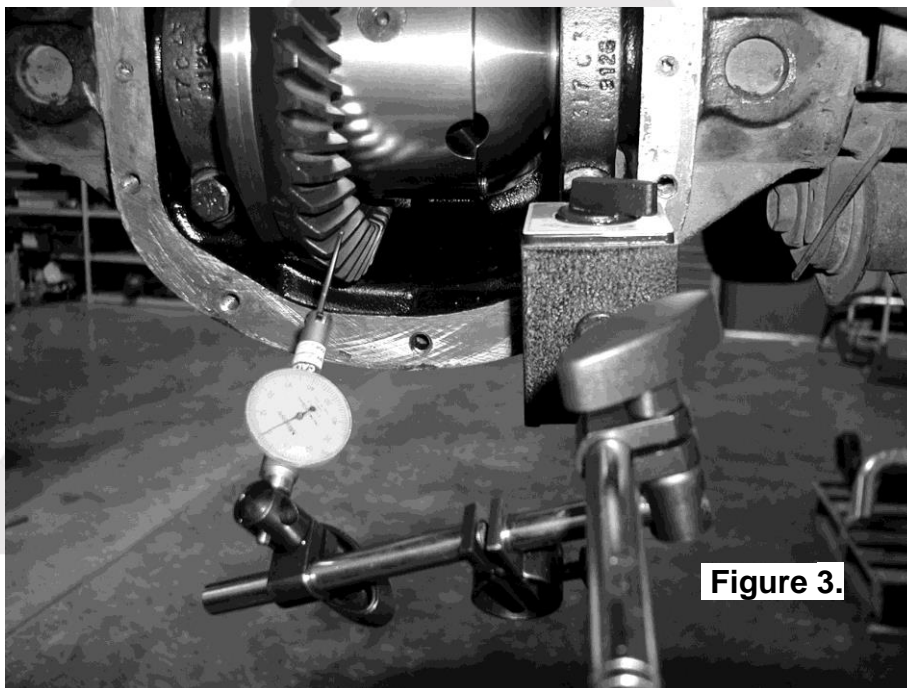

Figure 3.
- Set a depth indicator on one of the ring gear teeth as in figure 3.